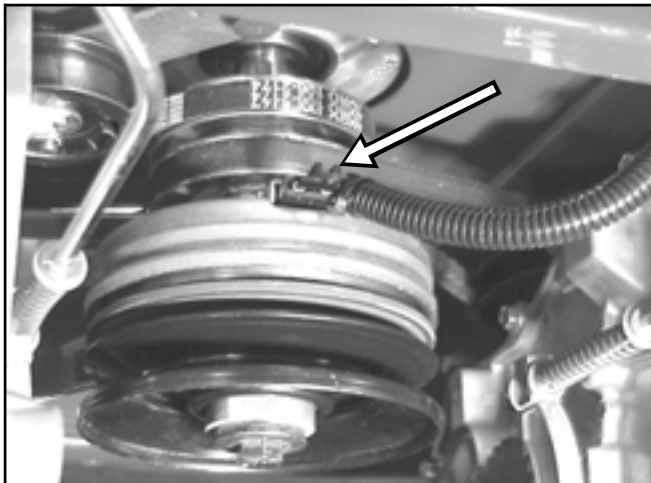

Figure 22
3. Disconnect the plug connection to the electric clutch (Figure 22).